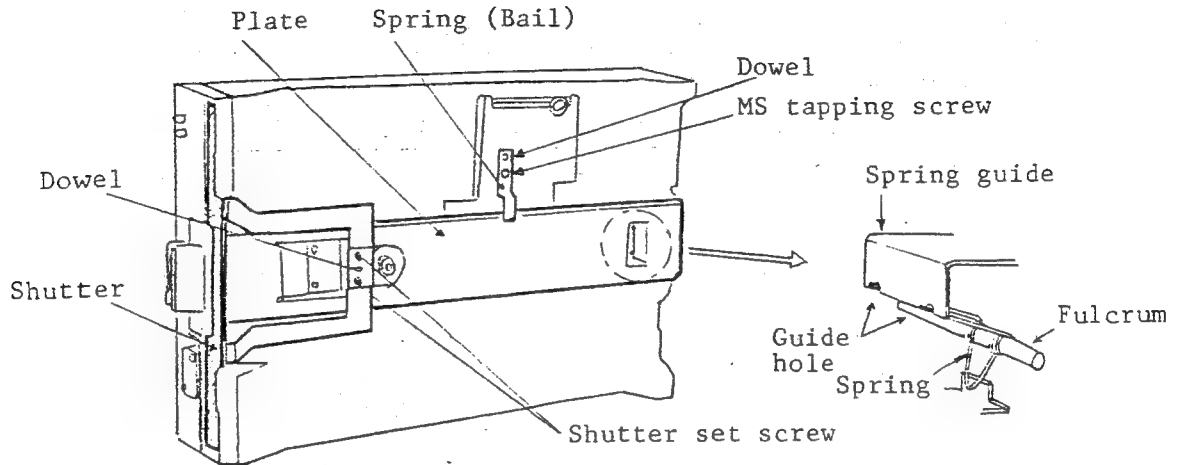

Fig. 4.2 How to Open/Close Plate
(1) Tools and measuring instruments to be used:
(2) Disassembling
- (b) Remove shutter get screws (M3×2), and dismount the shutter by pushing it to the left (Fig. 4.2).
(3) Assembling